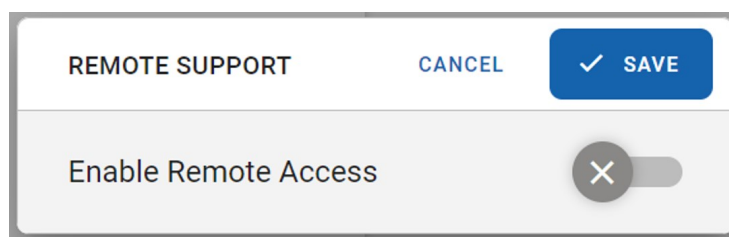

Figure 81. Enable remote access.
4. Activate the **Enable Remote Access** toggle button (Figure 81).